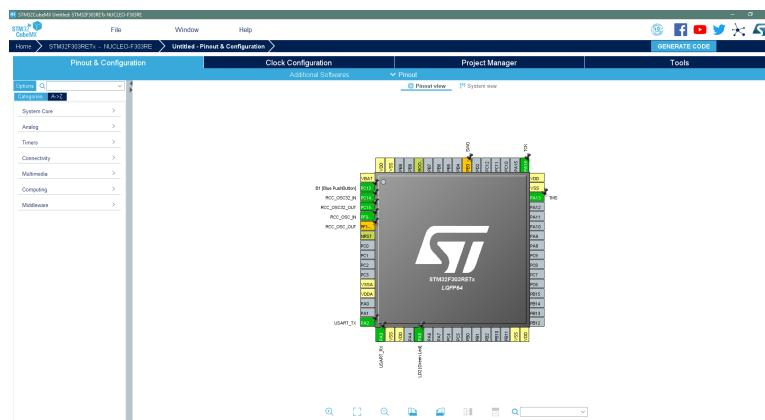

Figure 3.3: Graphical interface of the wanted chip [3].
- Then, you arrive on the graphical interface of the chip used in the section *Pinout & Configuration*. Various tabs are available as you can see on the fig. 3.3 ;